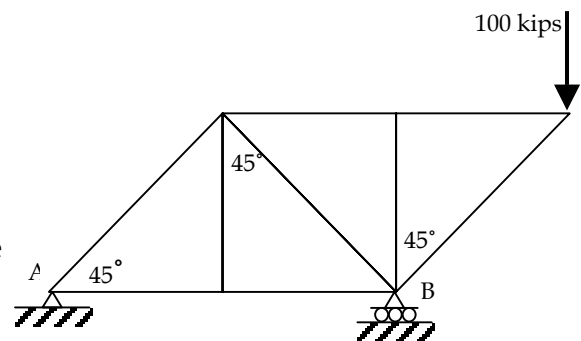

Figure 4.
4) The truss illustrated in Figure 4 spans 30 feet between points A and B.